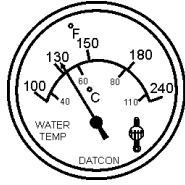

Figure 53. Coolant Temperature Gauge
12. The **coolant temperature gauge** (Figure 53) will indicate the coolant temperature. Under normal operating conditions the coolant temperature should be between 167°~203°F (75°~95°C) (**Green Zone**).